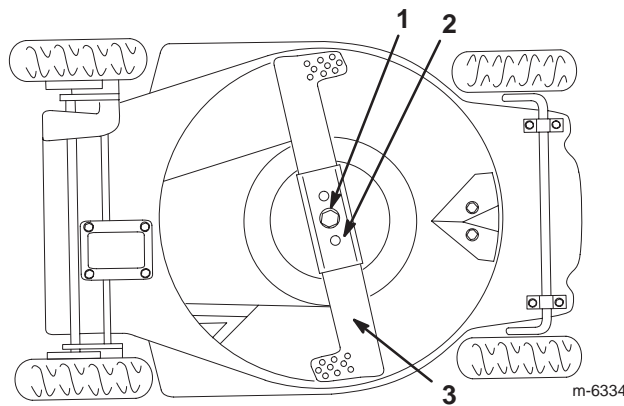

Figure 29
4. Tip the lawn mower on its **left** side (Fig. 29).
2. Remove the blade bolt, the lock washer, the blade, and the blade stiffener (Fig. 29).